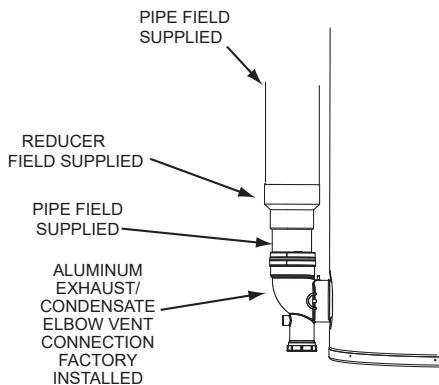

Figure 31. Vent Exhaust Connection
- 9. Slide a roof boot or equivalent flashing over the pipe, secure the roof boot or equivalent flashing to the roof (see **Figure 31**), and seal around the flashing.